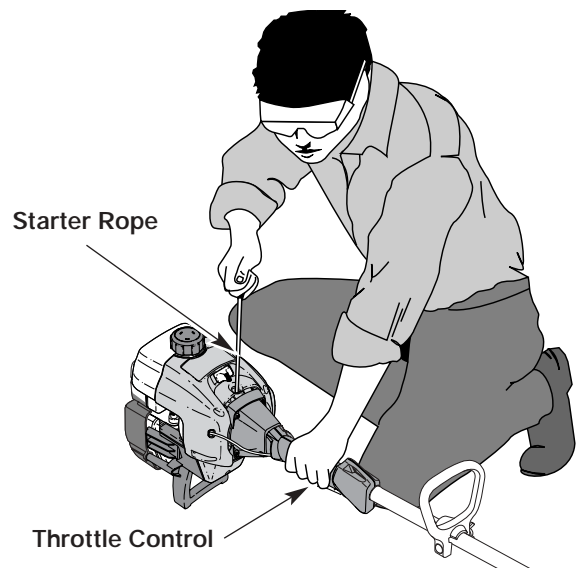

Fig. 8
WARNING: Avoid accidental starting. Make sure you are in the starting position when pulling the starter rope (Fig. 8). To avoid serious injury, the operator and unit must be in a stable position while starting.
5. With the unit in the starting position (Fig. 8), squeeze the throttle control to the wide open (full throttle) position. Pull the starter rope briskly 5 times while still in the **FULL** choke (**A** |←|) position. If the engine attempts to run before the fifth pull, proceed to step 6.
7. Pull starter rope briskly 1 to 3 times to start the engine (Fig. 8).
1. Release your hand from the throttle control (Fig. 8). Allow the engine to cool down by idling.